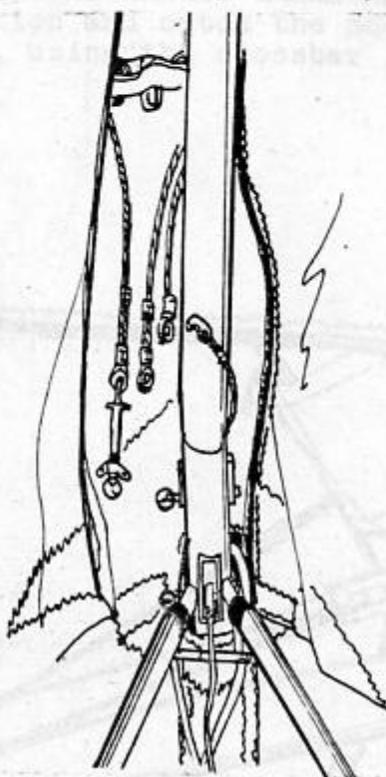

Fig. 3.2.19.
11. Remove the wing nut and the safety ring from the bolt which is secured to the crossbar sweep wires. (The wires attached to the crossbar center). Insert the loop of the leech line, which is secured on the bolt for securing the downtubes to the channel through the ring in the shortest of two wires which make up one of the crossbar sweep wire (Fig. 3.2.19, 3.2.20).